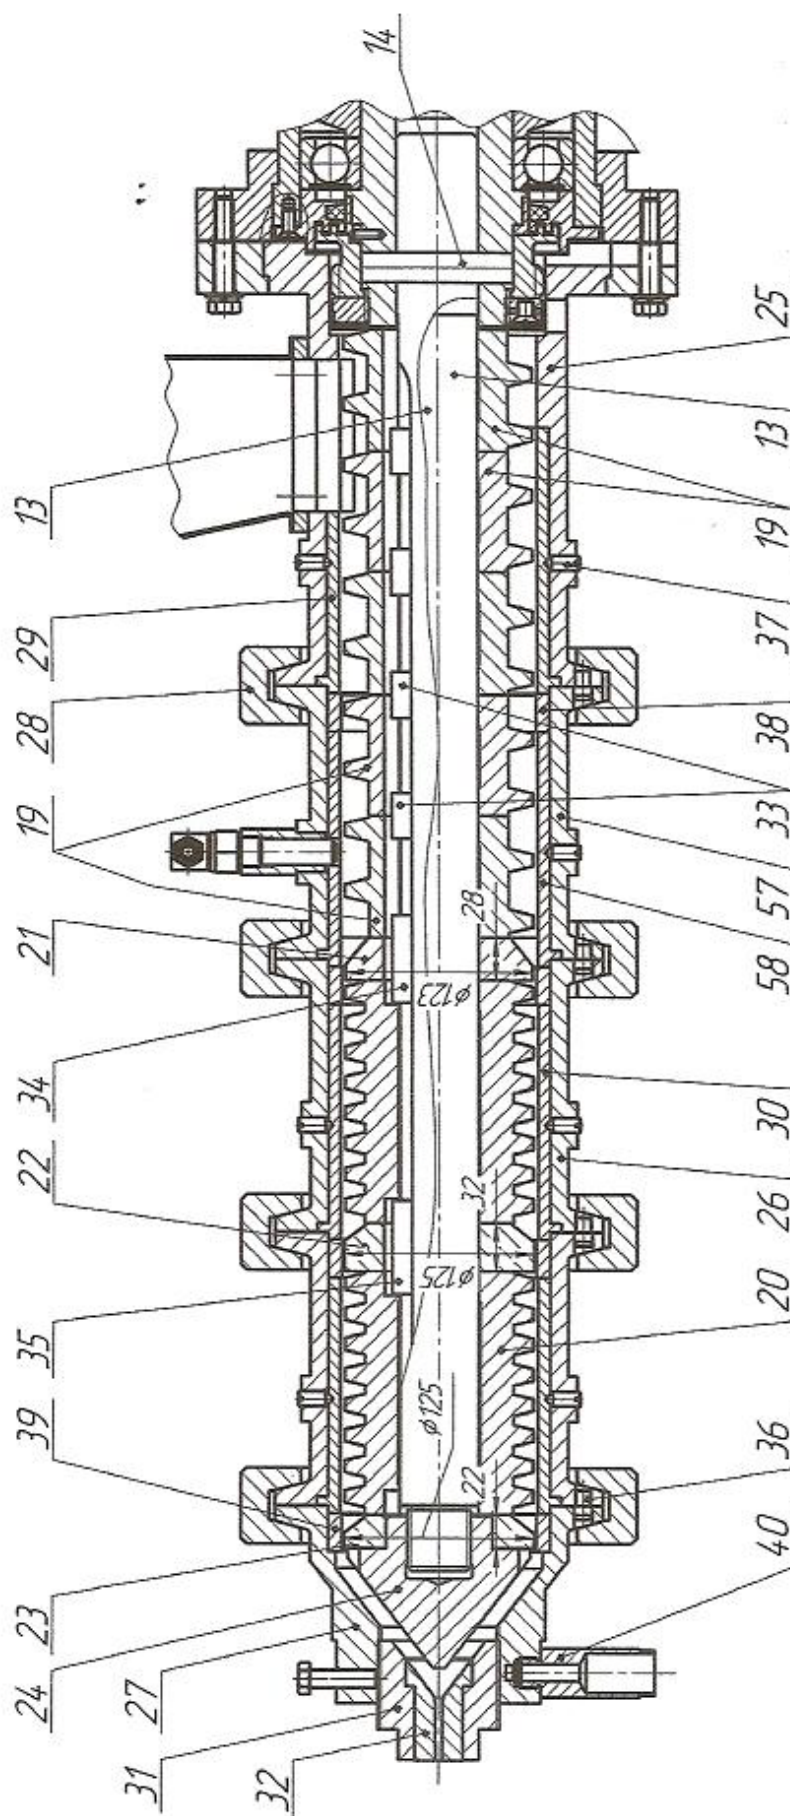

Figure 3
1. Washer E-500.30.00.002	(pos. 21, fig.3)
2. Washer E-500.30.00.001	(pos. 22, fig.3)
3. Washer E-500.30.00.005	(pos. 23, fig.3)
4. Screw E-500.30.00.003	(pos. 20, fig.3)
5. Screw E-500.00.00.012	(pos. 19, fig.3, 4)
8. Sleeve E-500.00.00.031	(pos. 30, fig.3, 4)
9. Sleeve E-500.00.00.038	(pos. 29, fig.3, 4)
10. Plug E-500.00.00.011	(pos. 39, fig.3, 4)
14. Plug E-500.00.00.005-03 (ø 6 mm)	(pos. 32, fig. 3)
15. Plug E-500.00.00.005-04 (ø 7 mm)	(pos. 32, fig. 3)
16. Plug E-500.00.00.005-05 (ø 5 mm)	(pos. 32, fig. 3)
17. Plug E-500.00.00.030	(pos. 38, fig. 3, 4)
19. Tip E-500.00.00.007	(pos. 24, fig. 3)
20. Sleeve E-500.00.00.033	(pos. 58, fig. 3, 4)